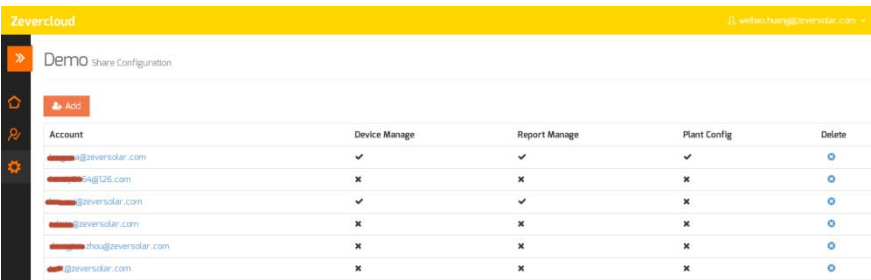

Fig. 7-6: PV plant sharing
Step3: In the check box in Fig. 7-6, you can configure the authorities of the shared users.